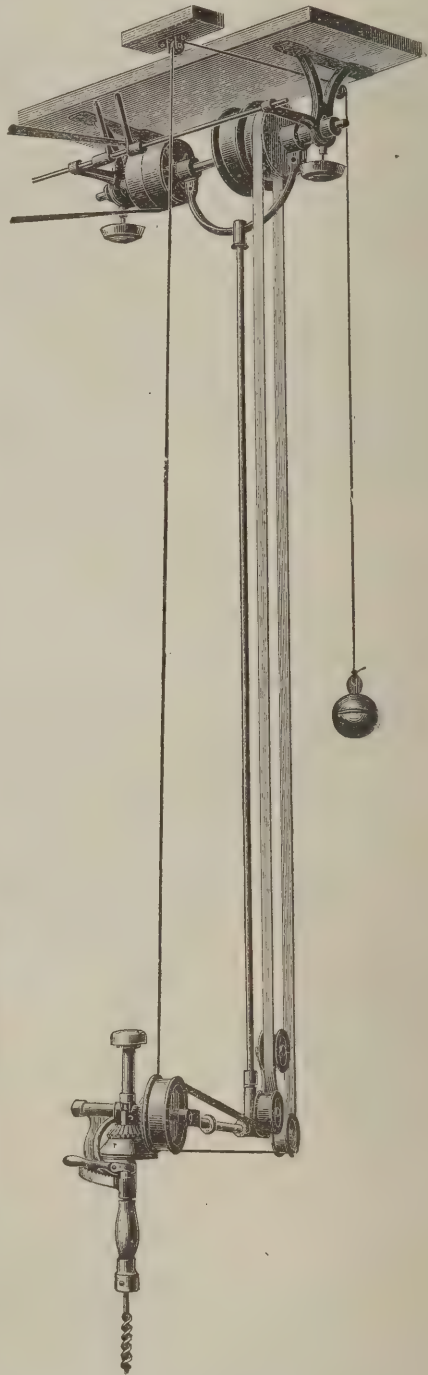

Fig. 14.—Power Boring and Drilling Machine Built by M. C. Henley, Richmond, Ind.
M. C. Henley, of Richmond, Ind., is putting on the market a universal power boring and drilling machine, which we illustrate in Figs. 14 and 15. The machine is designed for boring in woodwork or light drilling in iron, and its arrangement is clearly shown. The belt-wheel A is driven by a belt from the counter-shaft and about three idler pulleys, B C D,